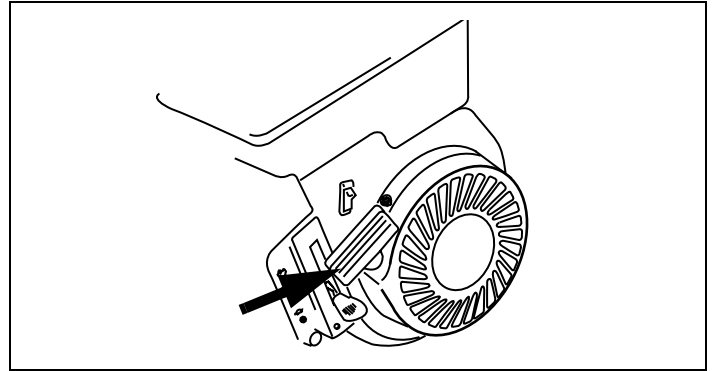

Figure 18. Starter Cord Handle
- Grasp starter cord handle. See Figure 18 on page 9. Afterward, continue reading instructions below.
4. Grasp starter cord handle. See Figure 18.